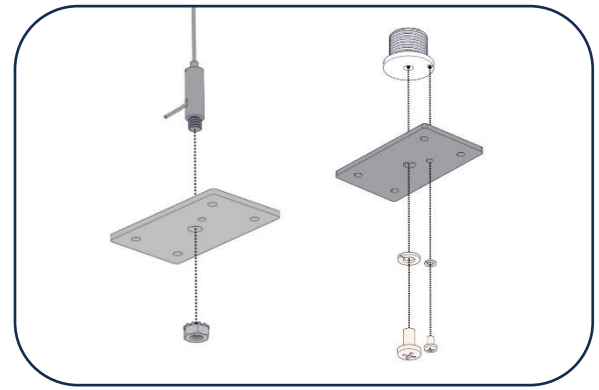

Figure 1
4. Install the appropriate mounting hardware to the Small Joiner Bracket. [Figure 1].